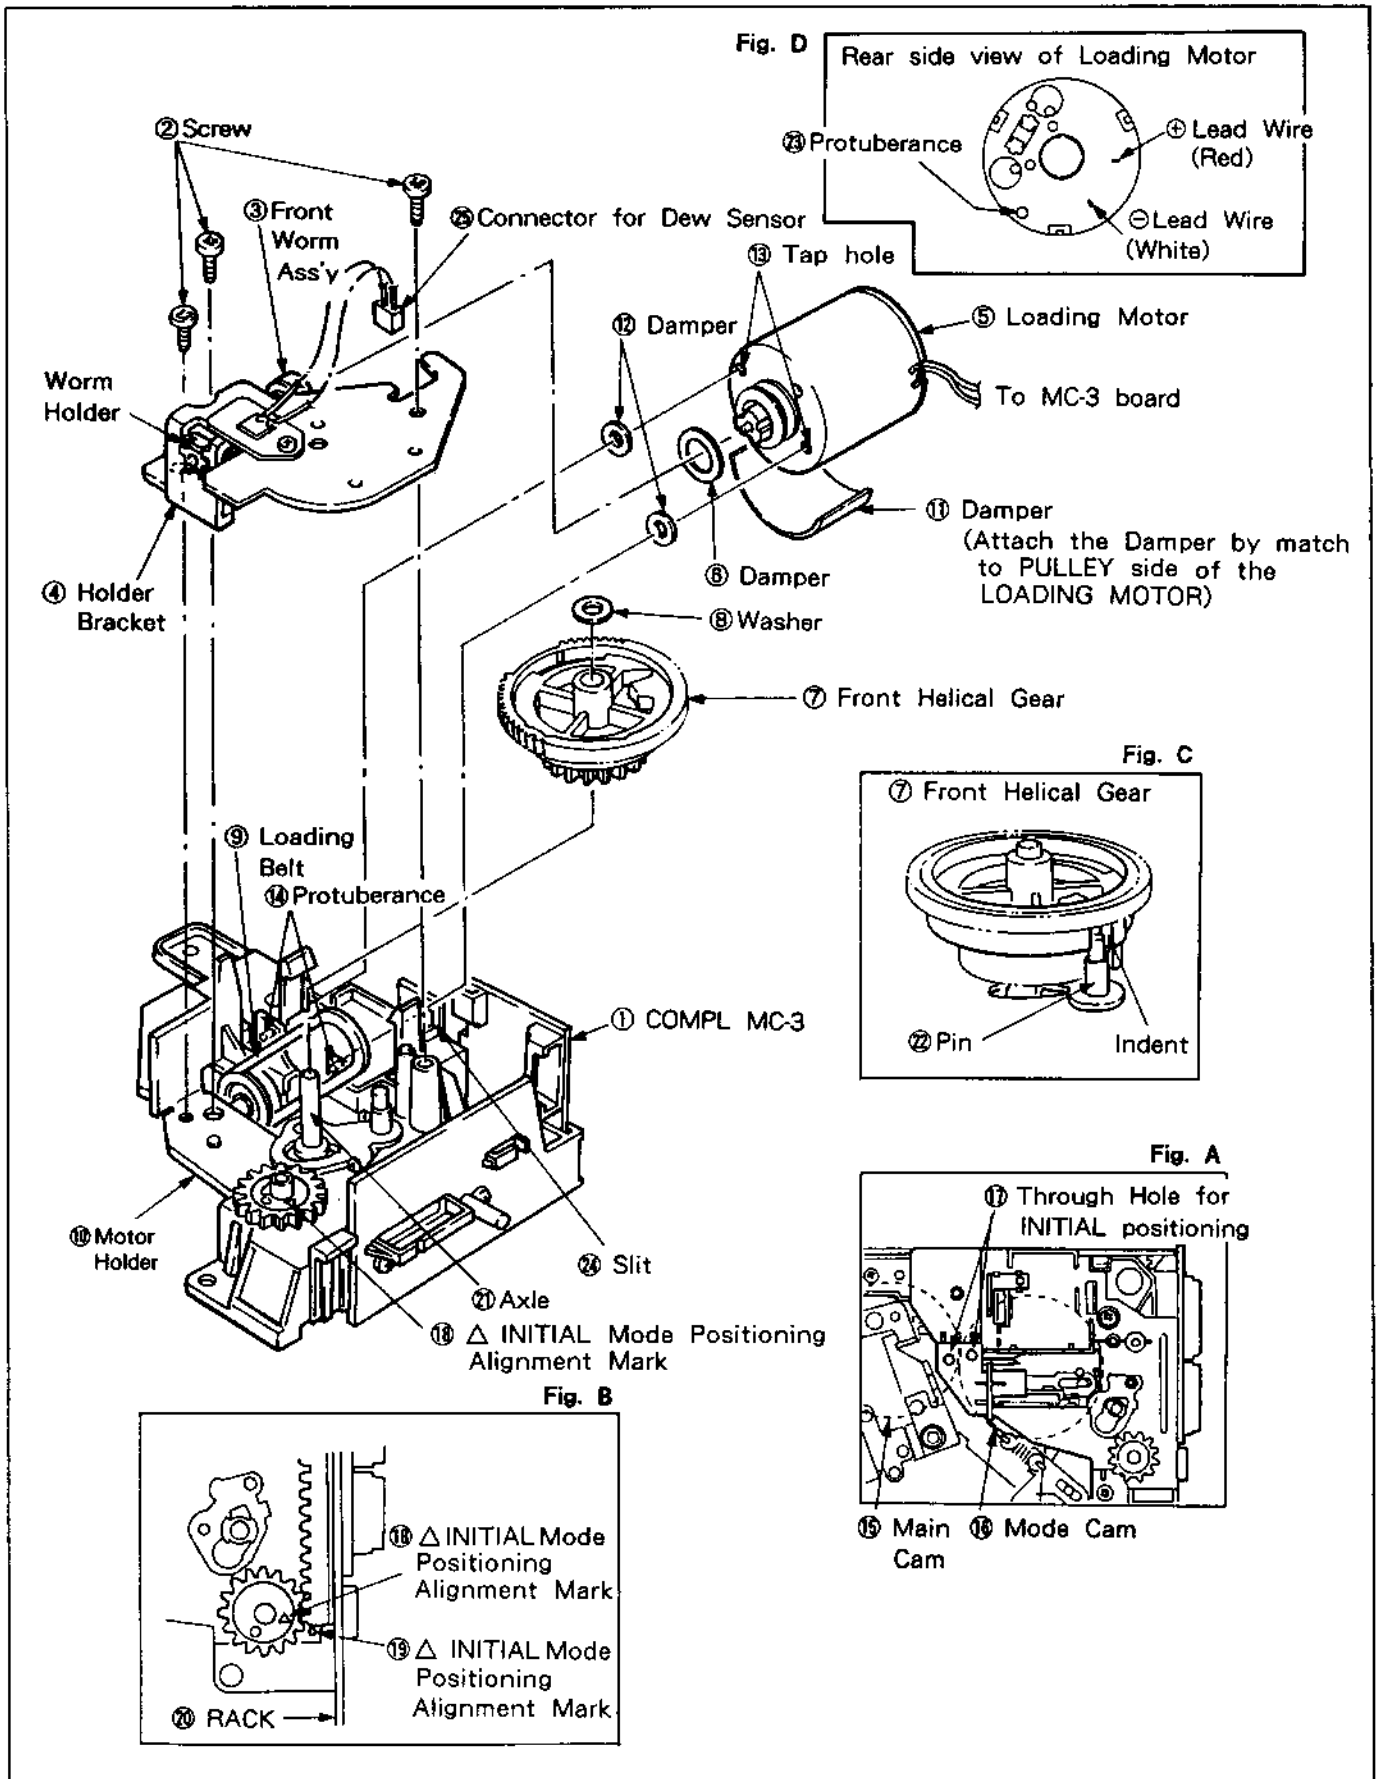

Fig. 2-3-2. Loading Motor
2-3-2. LOADING MOTOR (See Fig. 2-3-2.)
Before attaching the LOADING MOTOR ⑤ to the MOTOR HOLDER ⑩, confirm the DAMPER ⑪ and DAMPER ⑫ shown in Fig. 2-3-2. are in the proper position on the MOTOR HOLDER ⑩.
- 1) The LOADING MOTOR ⑤ puts the PROTUBERANCE ⑬ in the slit ⑭ of the MOTOR HOLDER ⑩.
- 2) Solder the lead wire from the MC-3 board to the LOADING MOTOR ⑤ terminal. (Solder the red lead wire to the positive terminal side.)
- 3) Hang the LOADING BELT ⑨ on the pulley.
- 4) After hanging the LOADING BELT ⑨ on the pulley, confirm that the mechanism unit is in the INITIAL mode. The INITIAL mode is indicated by Fig. A of Fig. 2-3-2., and is the position in which INITIAL mode positioning alignment holes of the MAIN CAM ⑰ and MODE CAM ⑱ are lined up with the THROUGH HOLE ⑲ of the MOTOR HOLDER. If the INITIAL mode is not selected, adjust with the MODE SELECTOR (VHJ-0050).
- 5) As shown in Fig. B, confirm the positions of the Δ INITIAL mode positioning alignment mark ⑲ on the FRONT LOAD GEAR and INITIAL mode positioning alignment mark ⑲ position of the MOTOR HOLDER and the position relationship of the RACK ⑳.
- 6) Apply a light coat of grease to the entire sides of the AXLE ㉑ and FRONT HELICAL GEAR ⑦.
- 7) Attach the FRONT HELICAL GEAR ⑦ and WASHER ⑧ to the AXLE ㉑. As shown in Fig. C, the FRONT HELICAL GEAR ⑦ is attached so that the indent on the side is inside PIN ㉒ of the FRONT LEVER ASS'Y.
- 8) Attach the DAMPER ⑥ to the LOADING MOTOR ⑤ pulley.
- 9) The HOLDER BRACKET ④ is attached by engaging the FRONT WORM ASS'Y ③ with the LOADING MOTOR ⑤ pulley, and held in place with three screws ②.
- 10) Attach the connector of the DEW SENSOR ㉓ to the MC-3 board ① and return the mechanism to the eject completion using MODE SELECTOR.